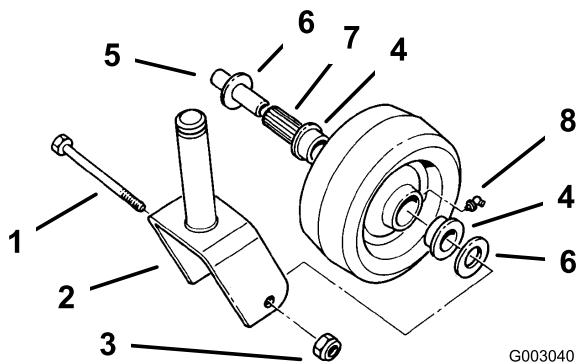

Figure 39
1. Remove the locknut and wheel bolt holding the caster wheel to the caster fork (Figure 39).
2. Remove one bushing, then pull the spanner bushing and roller bearing out of the wheel hub (Figure 39).
3. Remove the other bushing from the wheel hub and clean any grease and dirt from the wheel hub (Figure 39).
4. Inspect the roller bearing, bushings, spanner bushing and inside of the wheel hub for wear. Replace any defective or worn parts (Figure 39).
5. To assemble, place one bushing into the wheel hub. Grease the roller bearing and spanner bushing and slide them into the wheel hub. Place the second bushing into the wheel hub (Figure 39).
locknut until the spanner bushing bottoms against the inside of the caster forks (Figure 39).